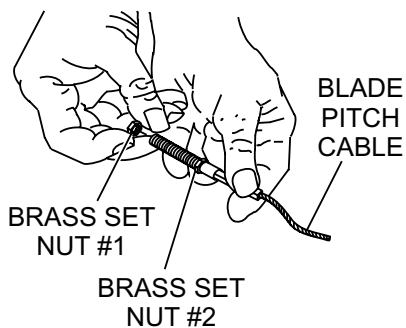

Figure 9. Blade Pitch Cable
2. Remove brass set nuts #1 and #2 from the blade pitch cable end as shown in (Figure 9).